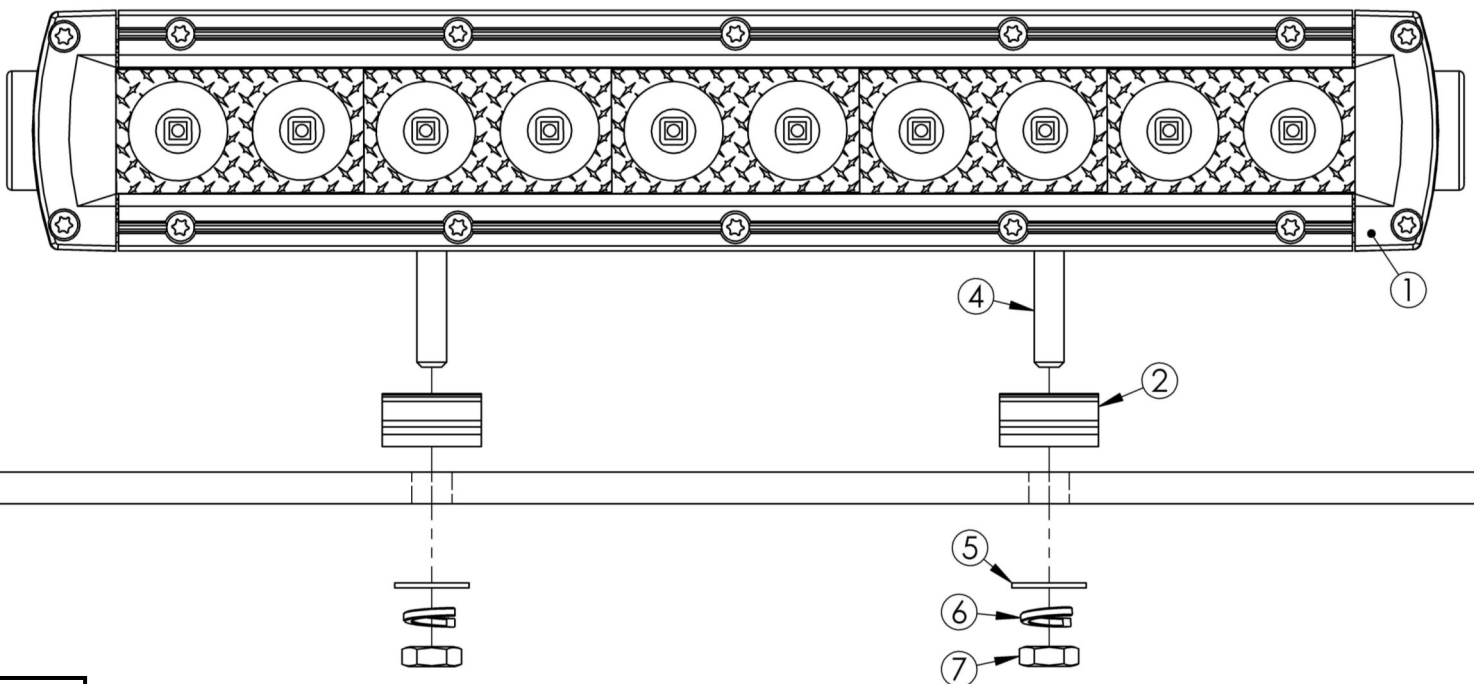

Figure 4
- Secure to surface using the provided M6 hardware. Torque all M6 hardware to 5-7 ft-lbs. Refer to **Figure 4**.